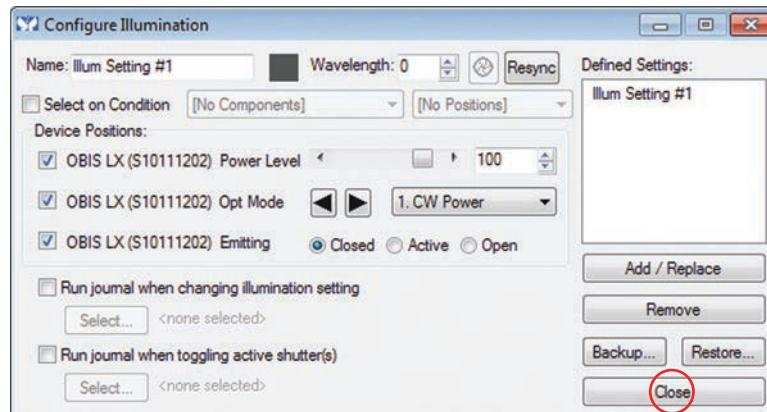

Figure H-24. Close Configuration Settings
5. Click the **Close** button shown in Figure H-24 to exit the Configure Illumination window.